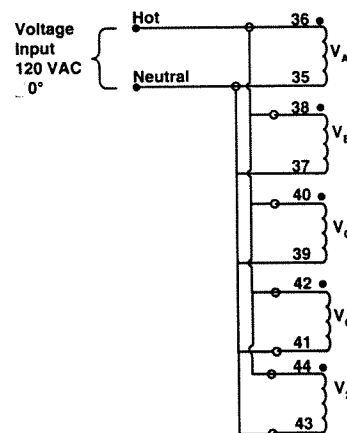

Figure 6-7 Voltage Calibration Configuration
3. Connect all voltage inputs in parallel ($V_A = V_B = V_C = V_2$) and apply 120.00 (± 0.01) VAC $\angle 0^\circ$. See Figure 6-7.